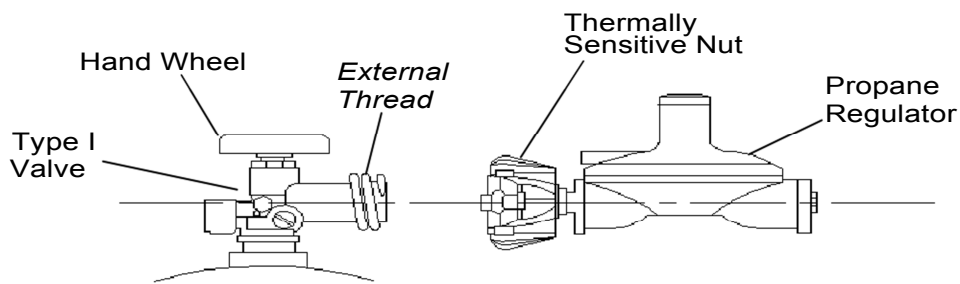

Fig.24
**WARNING:** The Type I connective coupling (see Fig.24) supplied with your grill must not be replaced with a different type of grill/tank connection system. Removal will result in loss of warranty, gas leakage, fire and severe bodily harm.